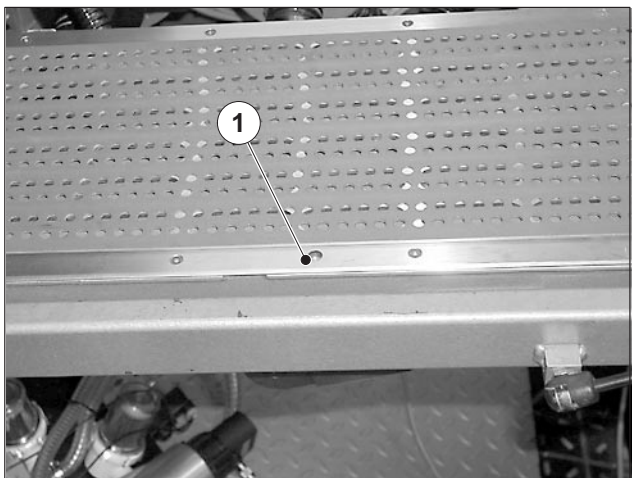
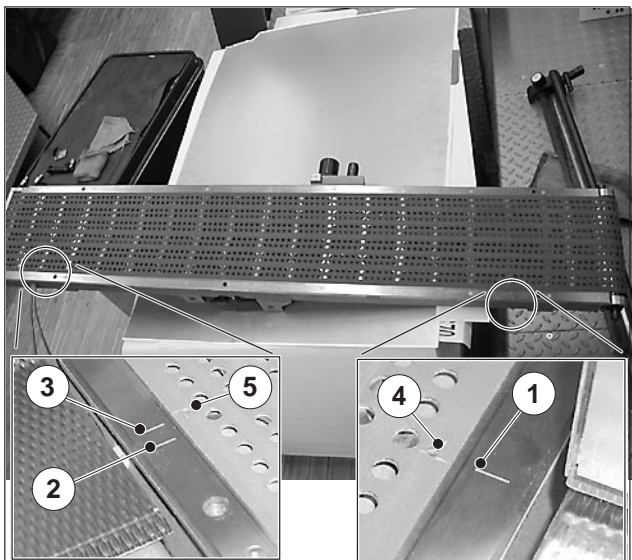

Fig. 97
Fig. 98
1. Tighten the suction tape with the clamp bolt (Fig. 97/1) until it lies flatly on the suction tape module, but is not yet stretched.
Marks on the suction tape module (Fig. 98/1 ... 3) and bore marking in the suction tape (Fig. 98/4 and 5) are intended to help you with adjusting the correct tape tension.
- the first bore marking in the suction tape (Fig. 98/4) is at the line mark (Fig. 98/1).
- the second bore marking in the suction tape (Fig. 98/5) is at the line mark (Fig. 98/2).
3. Stretch the suction tape with the clamp bolt (Fig. 97/1). The suction tape has properly been stretched if the bore markings in the suction tape (Fig. 98/4 and 5) are at the single line mark (Fig. 98/1) and at the outer line mark (Fig. 98/3).